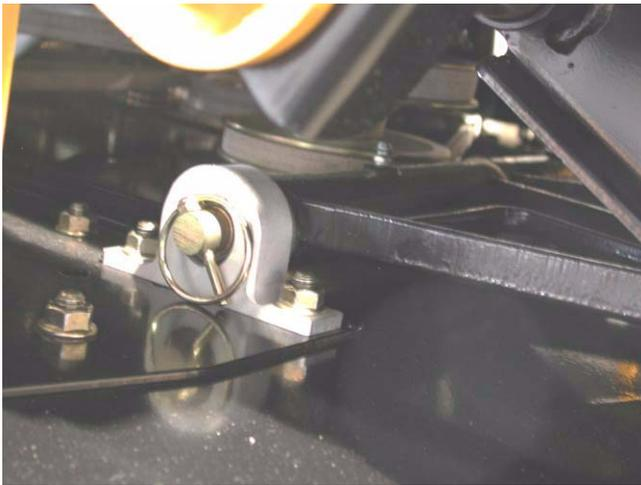

Figure 9.11
9.11. Improved self-aligning pillow blocks now suspend the deck. See Figure 9.11.